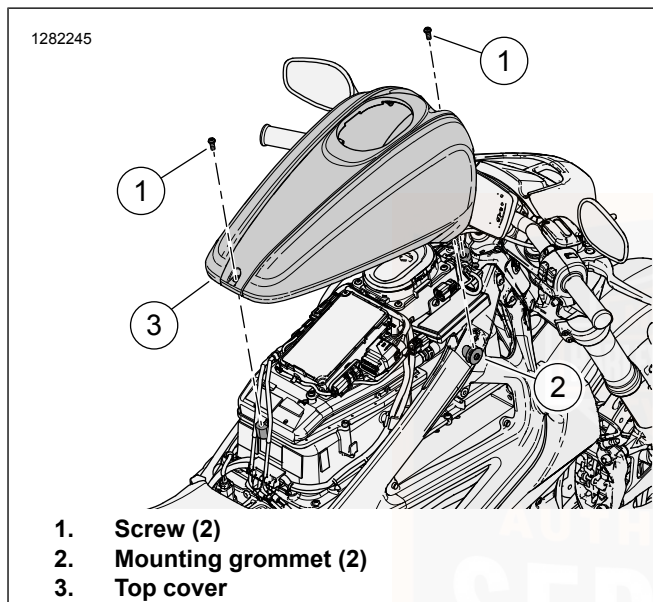

Figure 57. Top Cover
3. See Figure 57. Remove screws (1).
4. Lift top cover (3) straight up to disengage from mounting grommets (2).
1. See Figure 57. Install top cover (3) to mounting grommets (2).
2. Install screws (1). Tighten.